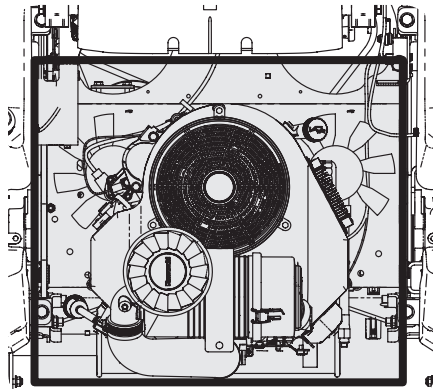

Figure 17
- Clean around the exhaust manifold, fuses, all wiring and harnesses, muffler pipe, muffler shield, engine intake screens and cooling fins, etc. See Figure 17.